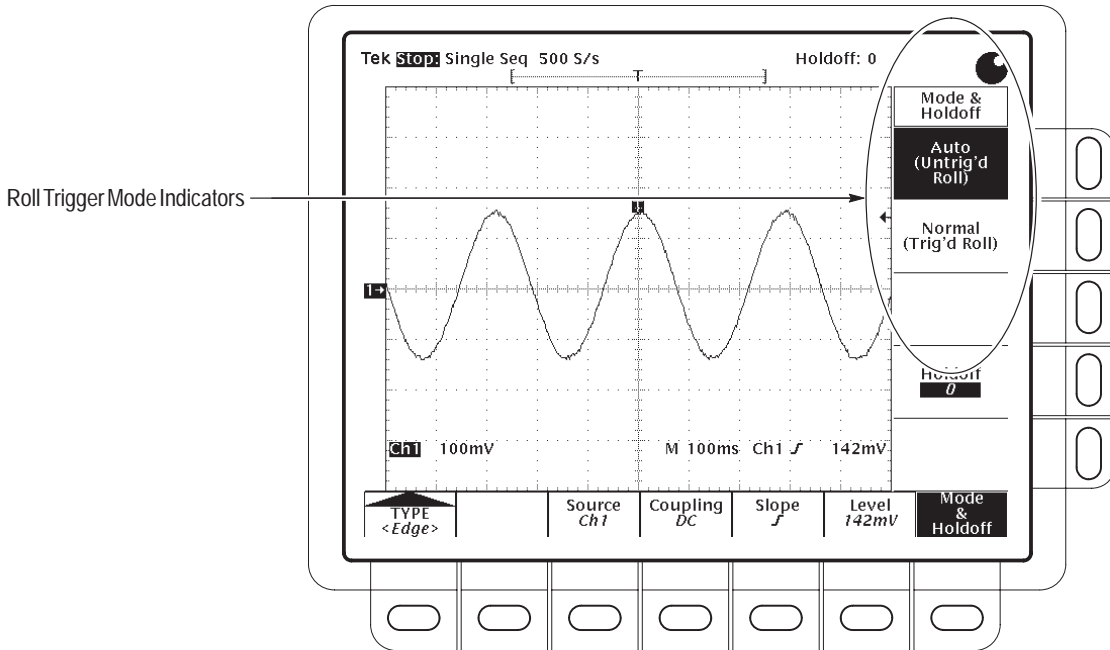

Figure 3-54: Trigger Mode Menu
3. If you want an untriggered roll mode, press **TRIGGER MENU** → **Mode** (main) → **Auto** (side). If you want a triggered roll mode, press **TRIGGER MENU** → **Mode** (main) → **Normal** (side). (See Figure 3-54.)